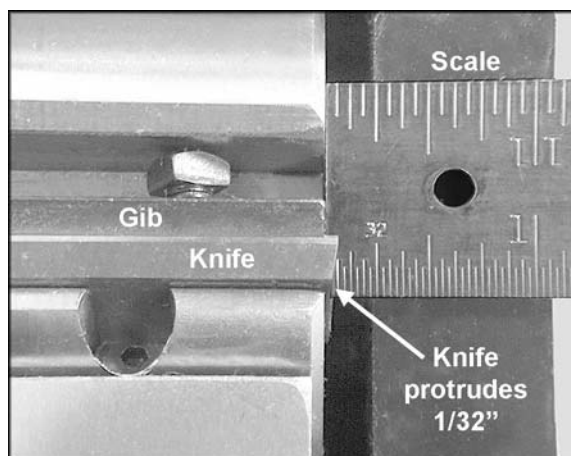

Figure 37 (straight cutterhead)
**IMPORTANT:** To position the knives for rabbet cuts, take a shop scale with 1/32" graduations and place it against the end of the cutterhead. Slide the knife out until it is at the 1/32" mark on the scale; that is, the knife will now be 1/32" beyond the edge of the cutterhead. The gib should remain in normal position, even with the edge of the cutterhead. See Figure 37. This adjustment will ensure that the knife clears the end of the gib and cutterhead, and has good contact with the workpiece. (See the "Operation" section for further information on rabbeting procedures.)